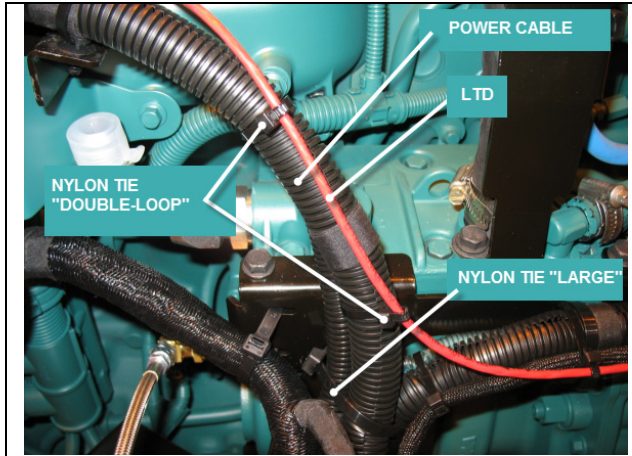

FIGURE 18
10. If applicable, reinstall the LTD along the power cable using double-loop nylon ties #507664 as previously installed. For proper installation and location, refer to FIGURE 18 to FIGURE 22 and read LTD INSTALLATION GUIDELINES in this document.